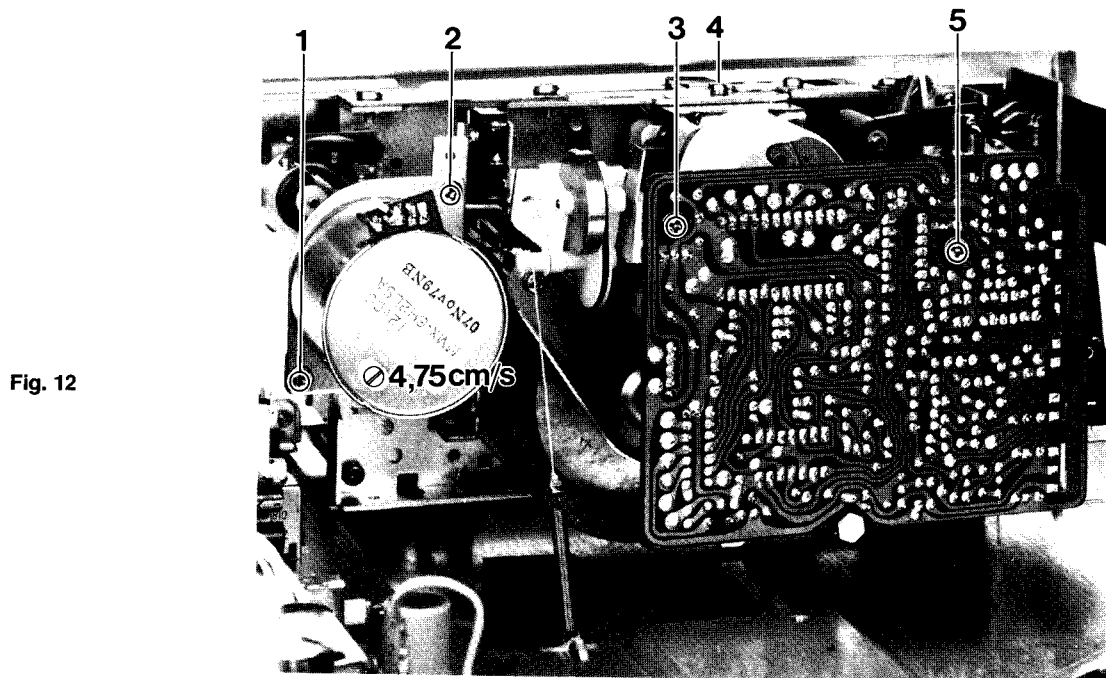

Fig. 12
- a) Remove screws 3, 5 as shown in Fig. 12.
- a) Remove screws 1, 2 Fig. 12.
- b) Remove screws 4, Fig. 12.